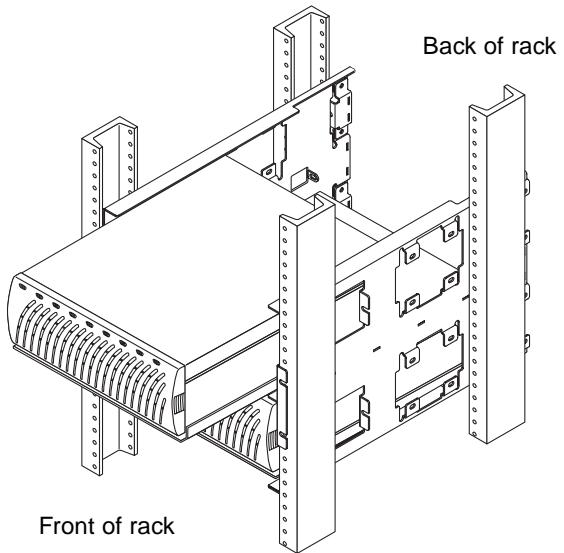

FIGURE 10 Sliding the Array in the Rack
2. Align the array with the side rails, and slide the array in the rack (FIGURE 10).